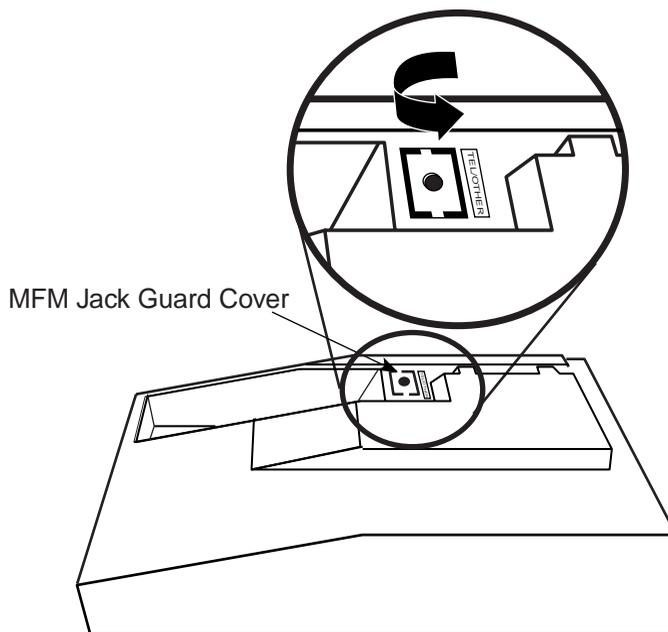

Figure 3-11. Removing the Jack Guard
- ▶ 7. To remove the jack guard, see Figure 3-11.